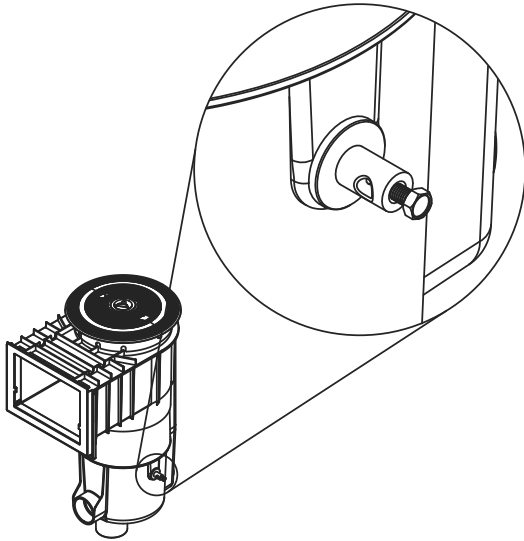

Figure 5
3. Bonding can be performed by utilizing the integrated stainless steel bonding lug (optional upgrade) located on the outside of the QuikSkim Ultra (Figure 5). The bonding lug is molded into the body and connects to a corrosion resistant 316 stainless steel bonding plate (Figure 6b) located on the inside of the skimmer. However, in the event that this plate should ever become corroded, it can easily be replaced by loosening the stainless steel locking nut (Figure 6a), removing the old bonding plate, adding a new bonding plate and resealing the locking nut.